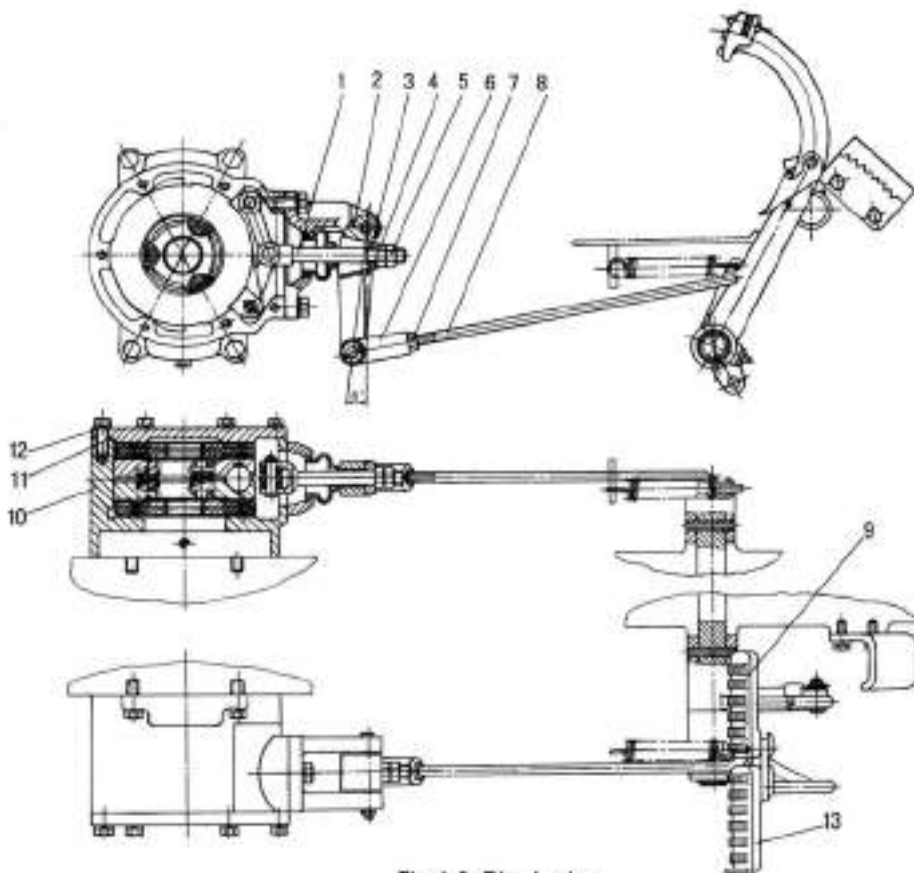

Fig.4-6 Disc brake
Loosen the outer locking nut M10 (5) on adjusting rod (1) and turn the inner nut M10 (4) to change the mounting angle of the rock arm (2) through the longitudinal motion of the self-position cushion (3) and ensure that the central connecting line of the upper and lower holes inclines to rear from the plumb line. After adjustment, lock it with locking nut (5). (Fig.4-6)
Loosen the locking nut (7) on pull rod adjusting fork (6) and turn brake pull rod adjusting fork to change the length of the pull rod (8) until the displacement (from the highest position of the brake pedal to friction disc assembly being completely braked) of the brake pedal is 85-95mm. When the left and right pedal are locked together, stepping on the pedals can simultaneously brake the left and right wheels; after adjustment, lock it with nut (7). (Fig.4-6)
If the above adjusting range can not perfectly make the free state and brake state out, they can be adjusted through increasing or reducing the brake cover gaskets (11) between brake cover (12) and brake case (10). If the brake travel is too small, increase the gaskets; if the brake travel is too big, reduce or remove the gaskets. (Fig.4-6)